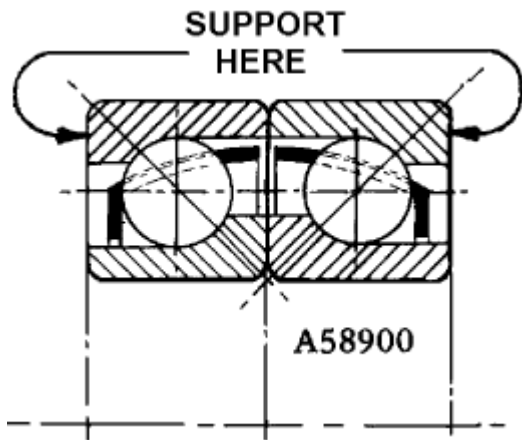

FIGURE 7-5 – ANGULAR CONTACT BEARING ASSEMBLY
5. The angular contact bearings (34, 35) must be assembled as shown in (FIGURE 7-5) to assure a "fixed" bearing. The marked face of the inner bearing is placed down in the bearing bore; the marked face of the outer bearing is placed up.